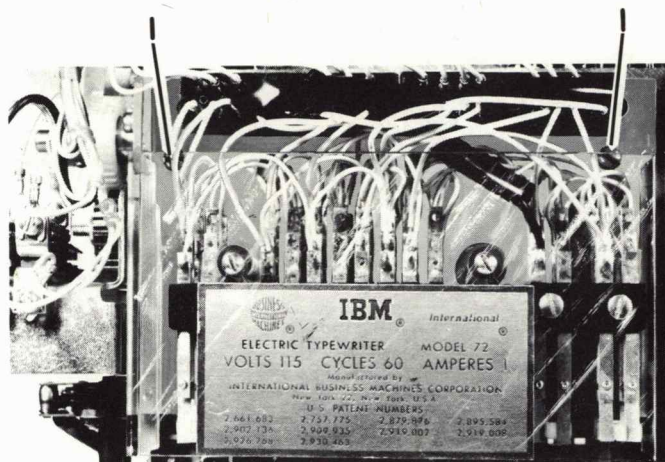

FIGURE 2. Cycle Clutch and Cycle Shaft Removal
- \* 7. Remove the two screws (#1, Figure 2) that hold the contact plate to the frame. Remove the contact assembly and hold it to the front with a rubber band.